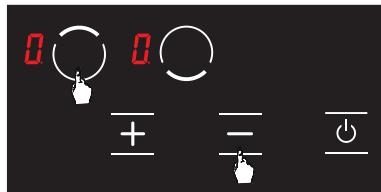

Figure 14
1. Press upper hob selection key (\square) and minus key (\blacksquare) simultaneously, you shall hear a short warning signal at this time. (see Fig. 14) Then, remove your fingers from the stove control panel.